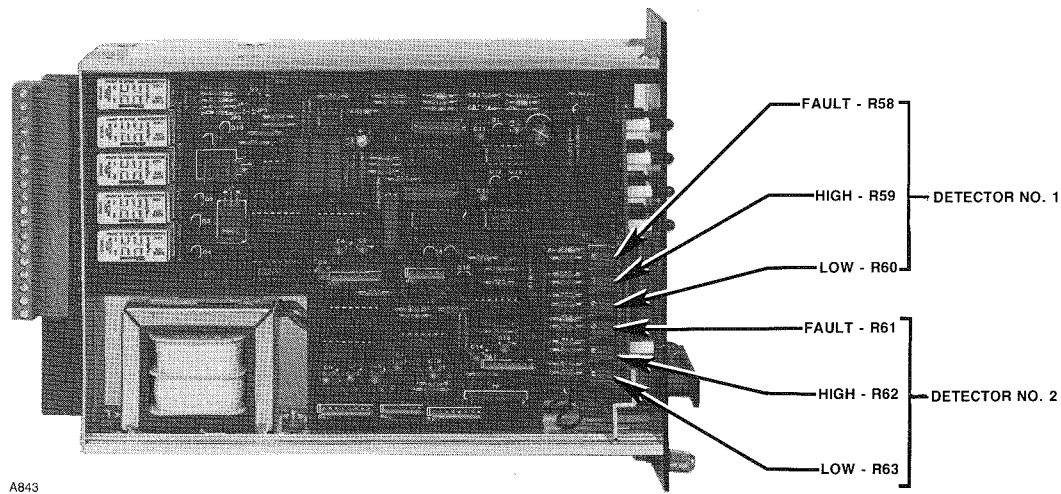

Figure 11—Location of Threshold Adjustment Potentiometers
3. Slide the controller out of the mounting rack far enough to permit access to the threshold adjustment potentiometers on the Processor Board. See Figure 11 for location and identification of potentiometers.